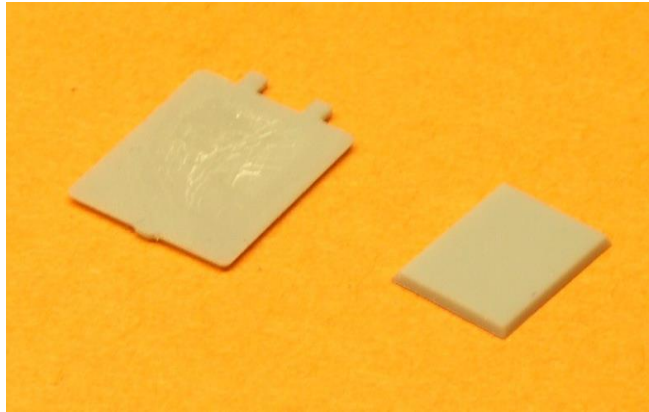

Figure OH2
3. Glue the underside pieces of the hatches to the bottom of the hatches. Check to make sure that the hatch still fits on the hatch opening on the roof. See Figures OH2.